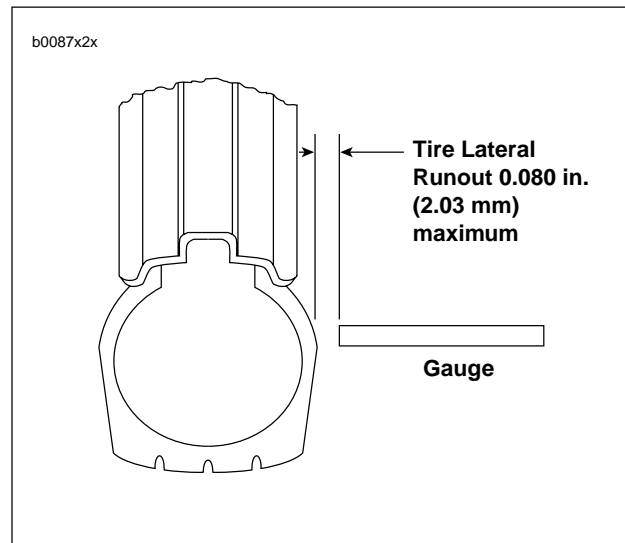

Figure 2-17. Checking Tire Lateral Runout
1. See Figure 2-17. Turn wheel on axle and measure amount of displacement from a fixed point to tire sidewall.